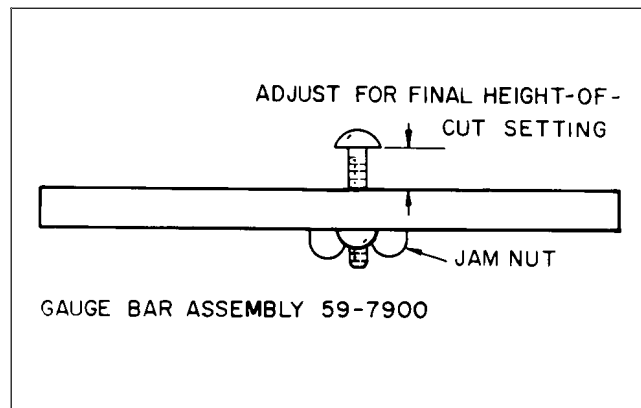
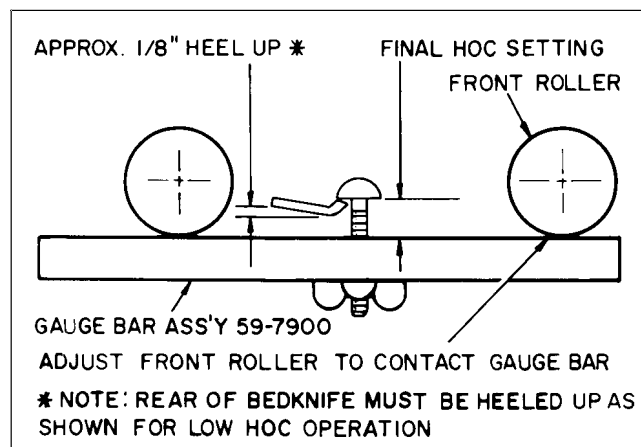

Figure 9
Figure 10
H. Loosen the gauge bar jam nut and adjust the screw to set dimension between underside of screw head and gauge bar for desired height-of-cut. (Fig. 9). Tighten the jam nut to secure the adjustment. Hook screw head over cutting edge of bedknife and position bar against bottom of front roller (Fig. 10).
I. Loosen front roller nuts and adjust both ends of the front roller until it contacts gauge bar at both ends. With the gauge bar held firmly against the bottom of the rollers adjust the front roller so the screw head just slips over the lip of the bedknife (Fig. 10). Tighten front roller nuts.